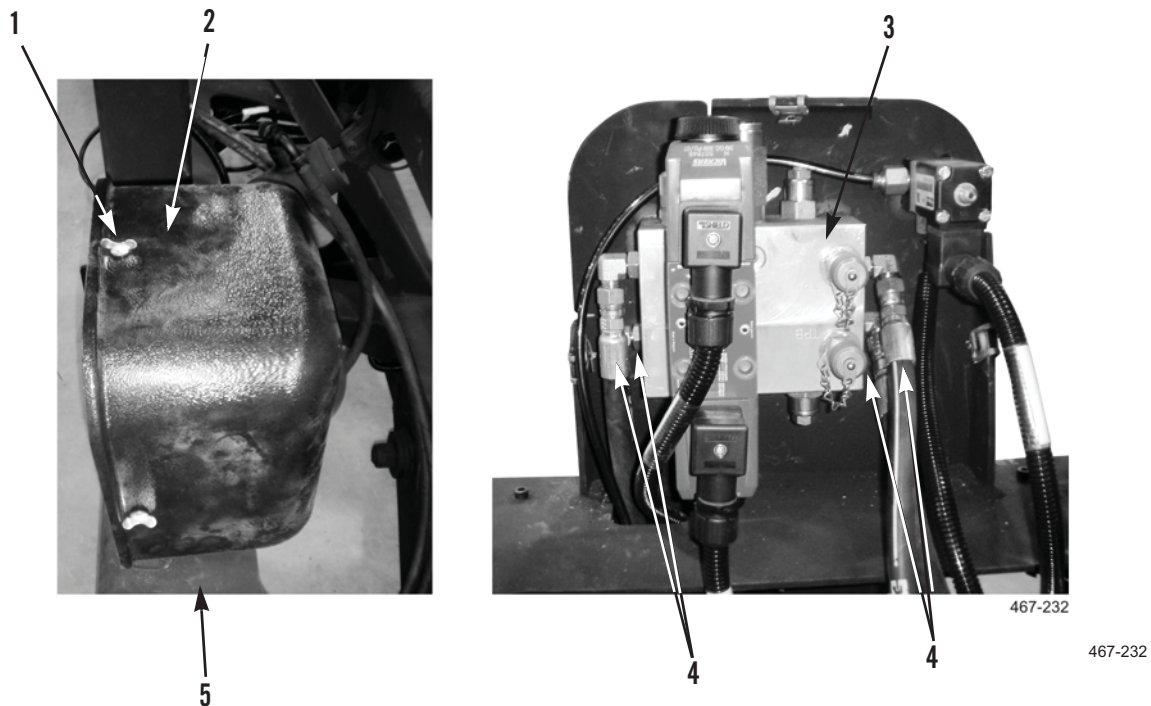

Figure 3. Solenoid Hose Removal.
6. Loosen three locking screws (Figure 3, Item 1) and remove solenoid cover (Figure 3, Item 2) from stowage assembly (Figure 3, Item 5).
7. Remove four hydraulic hoses (Figure 3, Item 4) from solenoid (Figure 3, Item 3).